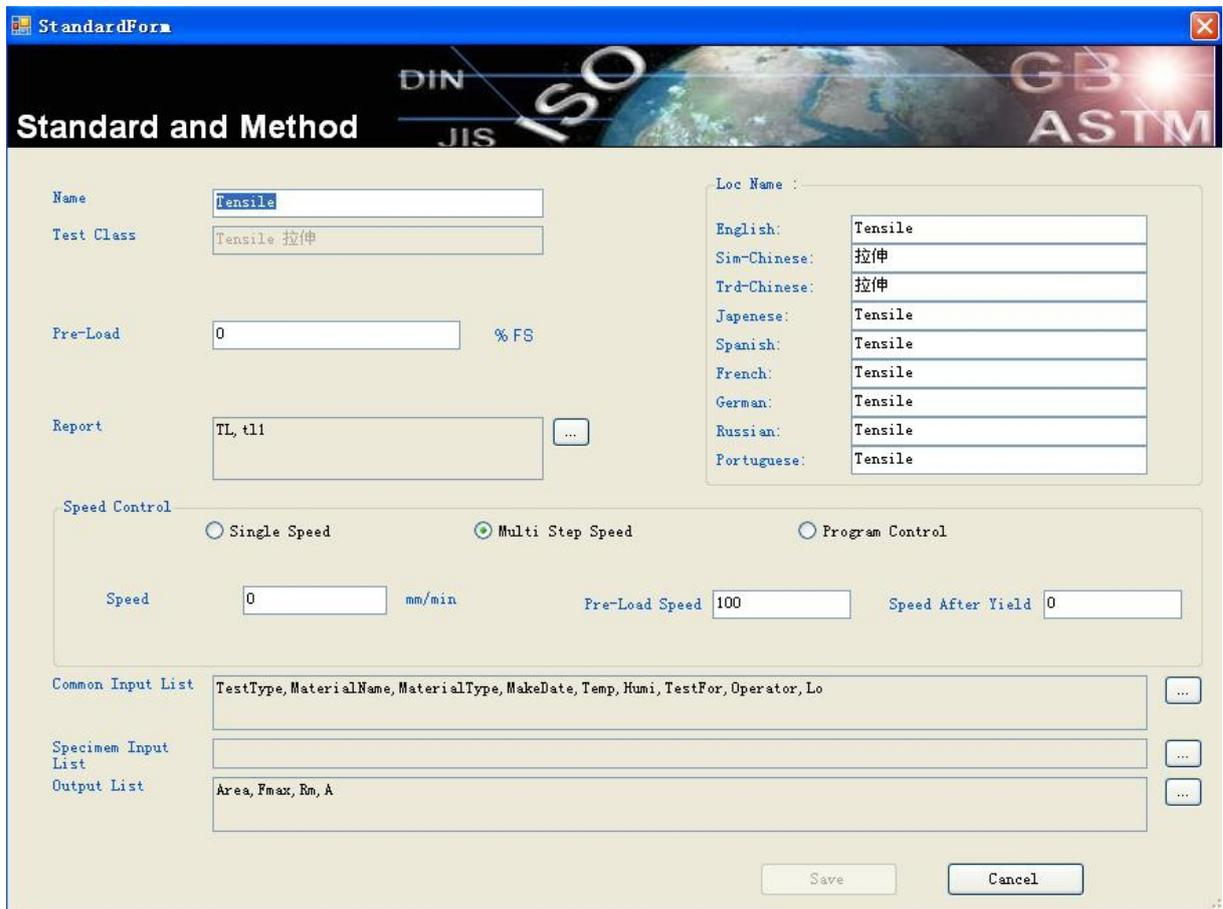

Figure 6-2
- 4 Click the option to enter the test methods test methods form, as shown in Figure 6-2;